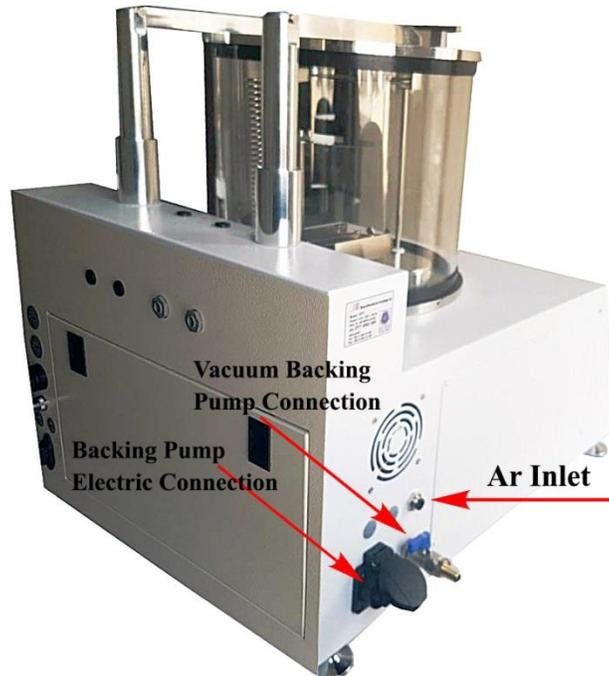

Figure 4-1: Side view of the DTT
Figure 4-1 shows the place of electric connections at the side of the device.
- 2- The cable of the backing pump connects to the left side of the device (Figure 4-1).
The backing vacuum pump connects to the device, by the hose with length of 1.5 m (Figure 4-1).
- 4- Replace the ISOKF16 connection or hose clamp with the cap of blue valve (Figure 4-1).